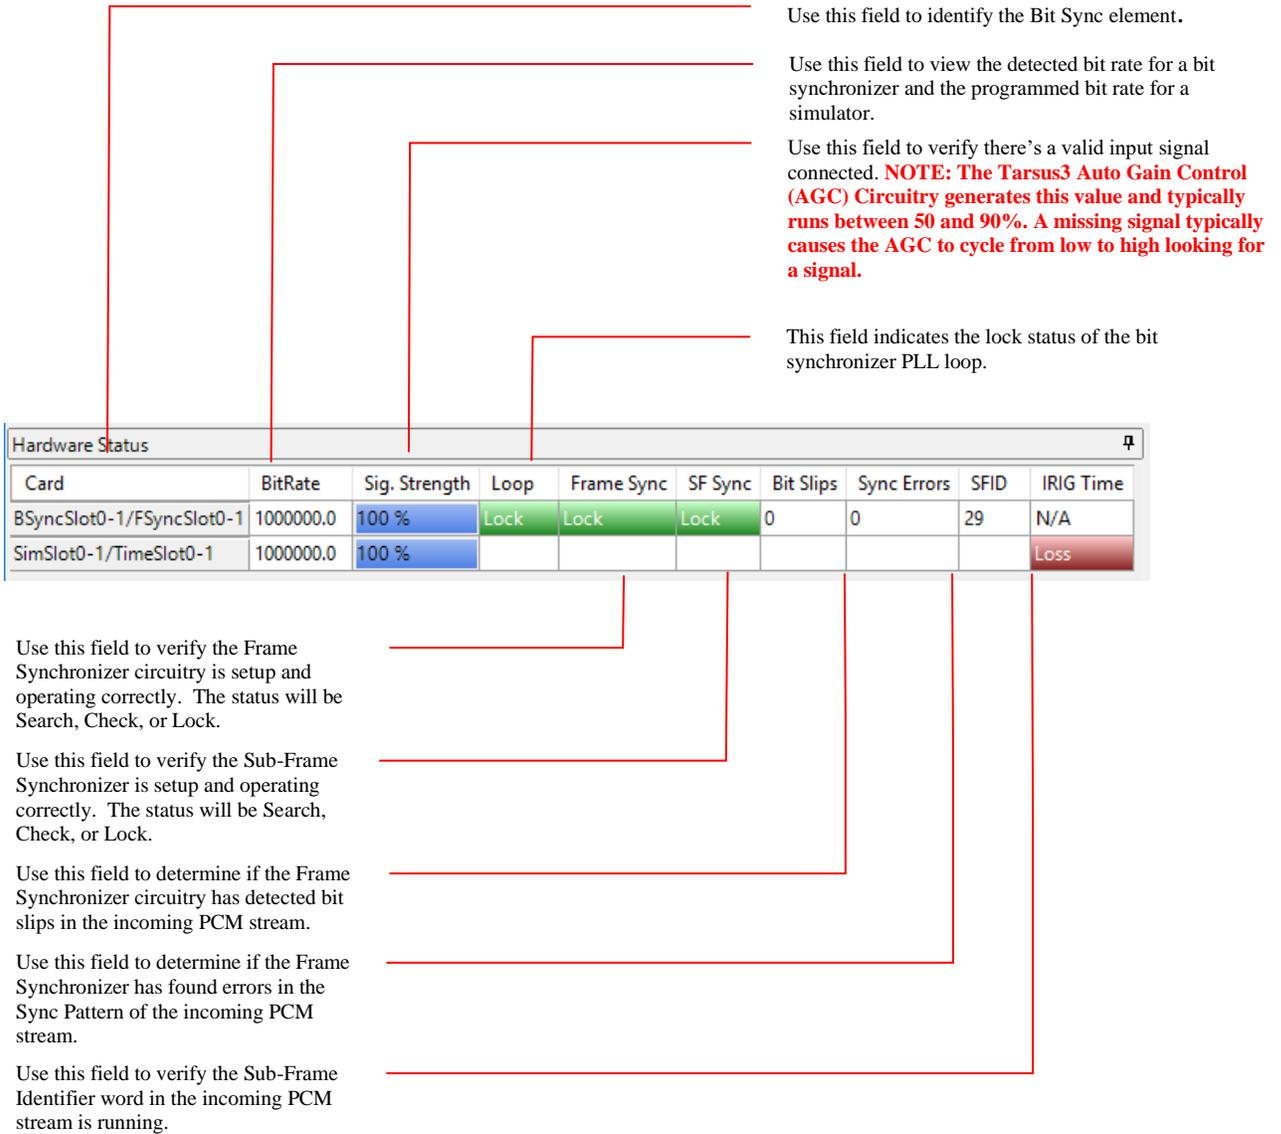

Figure 37 – Status Section of Main Screen
The Hardware Status bar on the main screen provides continuous status (updated on 250 millisecond intervals) of all Ulyssix cards and their associated Bit Syncs, Frame Syncs and Simulators. Use this bar during configuration to verify the proper setup and operation. Also use this bar during live testing to verify and monitor PCM signal existence, quality, and status. (See Figure 37 – Status Section of Main Screen below.)
The example above will cause the Frame Sync circuit to ignore bits 12 through 15 during sync detection. Any value in the PCM stream where the “2” in the FE6B2840 pattern is located would cause a valid frame lock on the status screen. (See Figure 37 – Status Section of Main Screen.)
8. Set the sync criteria for the number of “Search to Check” transitions the hardware should require before changing the frame status from *Search* to *Check*. (See Figure 37 – Status Section of Main Screen.)
9. Set the sync criteria for the number of “Check to Lock” transitions the hardware should require before changing the frame status from *Check* to *Lock*. (See Figure 37 – Status Section of Main Screen.)
10. Set the sync criteria for the number of “Lock to Check” transitions the hardware should require before losing the *Lock* status and changing it to *Check*. (See Figure 37 – Status Section of Main Screen.)
11. Set the sync criteria for number of “Check to Search” transitions the hardware should require before losing the *Check* status and changing it *Search*. (See Figure 37 – Status Section of Main Screen.)
5. Set the sync criteria for number of “Search to Check” transitions the hardware should require before changing the frame status from *Search* to *Check*. (See Figure 37 – Status Section of Main Screen.)